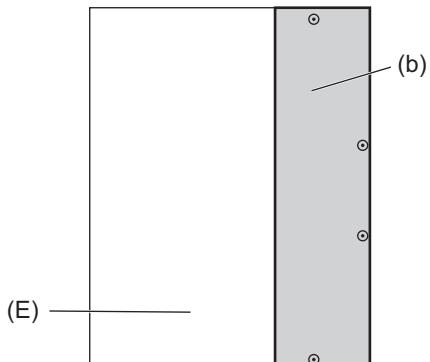

Fig.6
- To avoid dew condensation, use insulated screws in the places marked with circles in Figure 6.